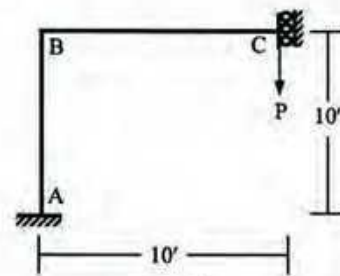

Fig. 7
7. Use the Stiffness Method (considering geometric nonlinearity) to calculate the approximate first critical buckling load for the frame loaded as shown in *Fig. 7* [Given: $EI = 50 \times 10^3$ k-ft²].